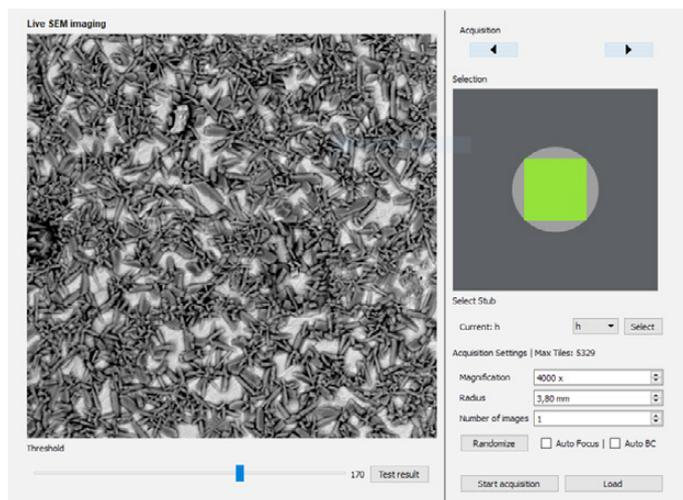
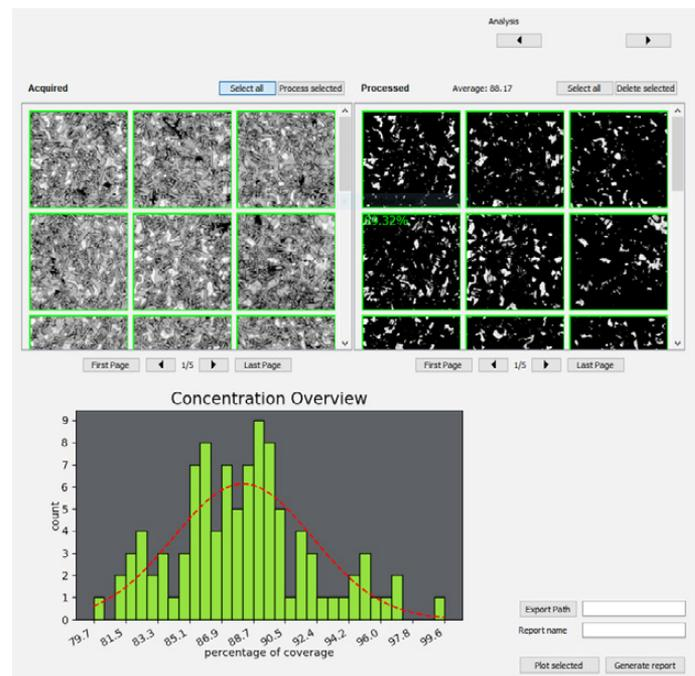

Figure 2. User interface showing the acquisition window of the PPI script for checking the quality of coated samples.
Figure 3. User interface showing the analysis window of the PPI script for checking the quality of coated samples.
We have developed a PPI script for measuring the coverage of phosphate coating samples. Figures 2 and 3 show the user interface (UI) for the acquisition of the set of images and for the subsequent analysis. In the acquisition UI, the imaging settings, such as magnification, the size of the total area to be scanned and the number of images, can be adjusted. A live SEM imaging window shows the BSD image of the sample, which is then used to set the threshold. Once the set of images is acquired, the calculation of the coverage can be launched in the analysis window, shown in Figure 3. Once the analysis is complete, the average coverage value is given, as well as a histogram showing the distribution. The results of the analysis can then be saved in a report.